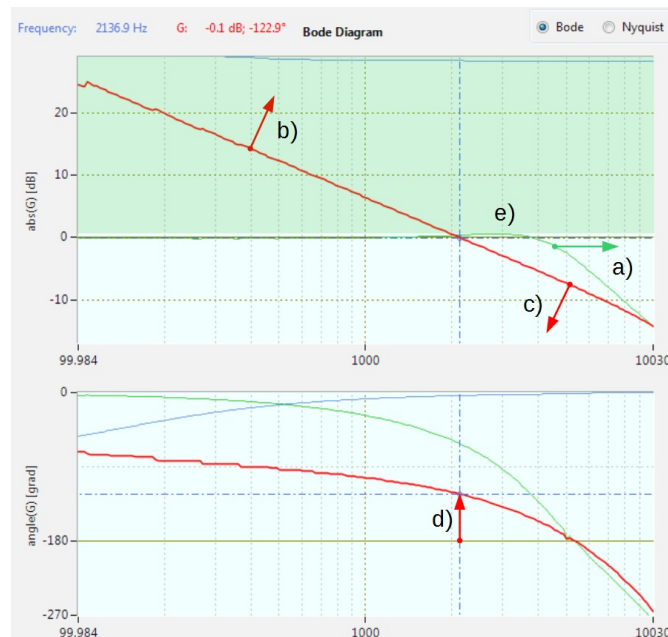
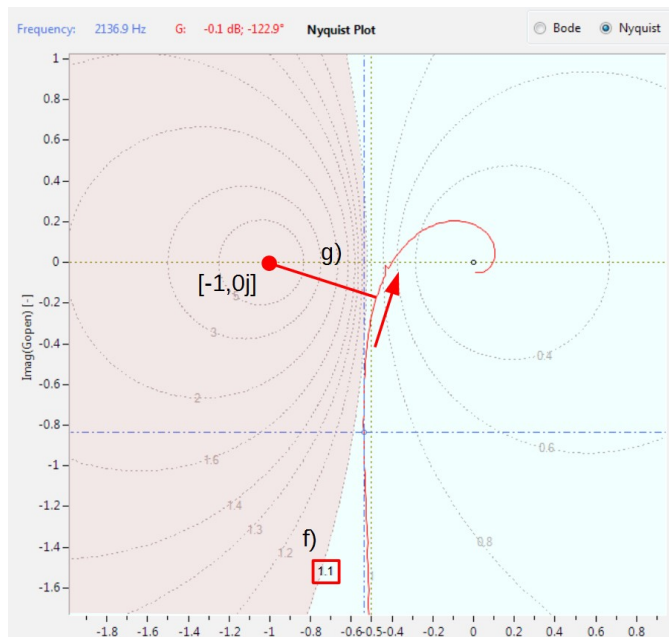

Figure 53: Tuning criteria in Bode view for the current controller.
Figure 54: Tuning criteria in Nyquist view for the current controller.
The goal for the tuning is to get a stable controller with the following characteristics (see also Figure 53 and Figure 54):
Tuning criteria in **Nyquist** plot view (Figure 54):
⁷ The phase-margin is the difference between the phase-angle of a transfer function $G_o(f_{gc})$ at the frequency f_{gc} where the amplitude of $H_o(f_{gc})$ crosses 0dB and -180° . See d) in Figure 53.
2. With the cross-hair search the frequency f_{gc} where $H_o(f_{gc})$ has a phase margin of 60° (Figure 53, marker d)).